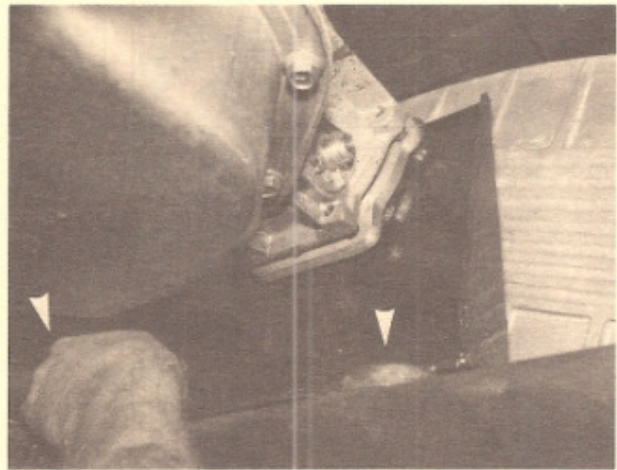

Figure 104 – Transfer Case Support Bolts
5. Remove rear transmission and transfer case support plate, by removing two (2) bolts at the bottom of the plate. (See figure 104.)